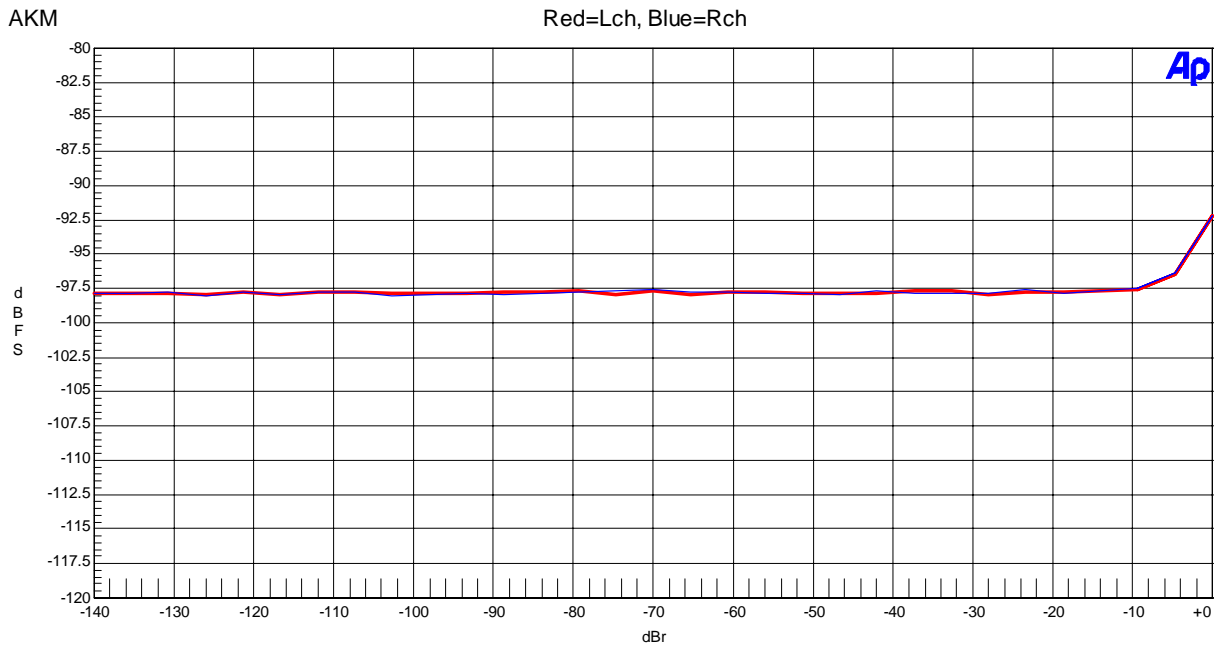

Figure 18 THD + N vs Amplitude (fin=1kHz)
- Figure 18 THD+N vs Input Level (fin=1kHz)